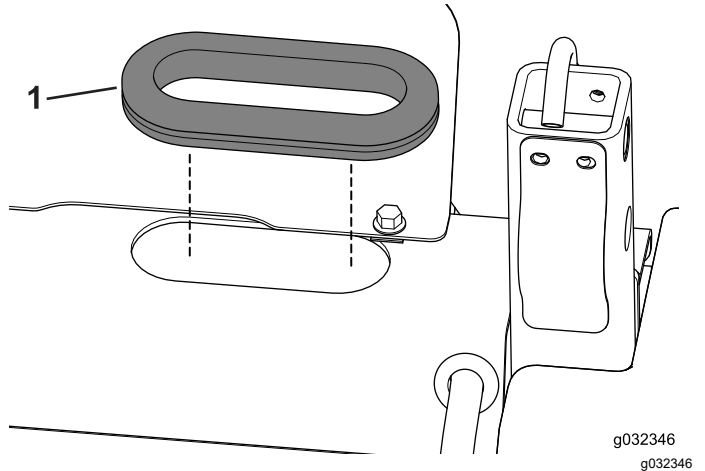

Figure 16
3. Install the grommet into the opening (Figure 16).